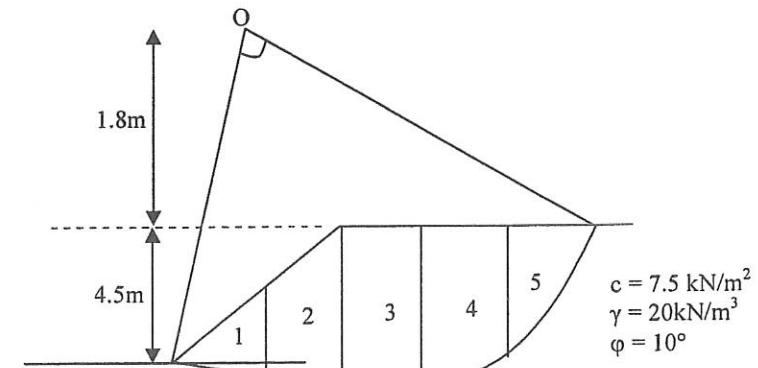

Figure 3b / Rajah 3b
- (b) For the **Figure 3b** and **Table 3b** below, determine the factor of safety for the slope by using Fellenius slices method.